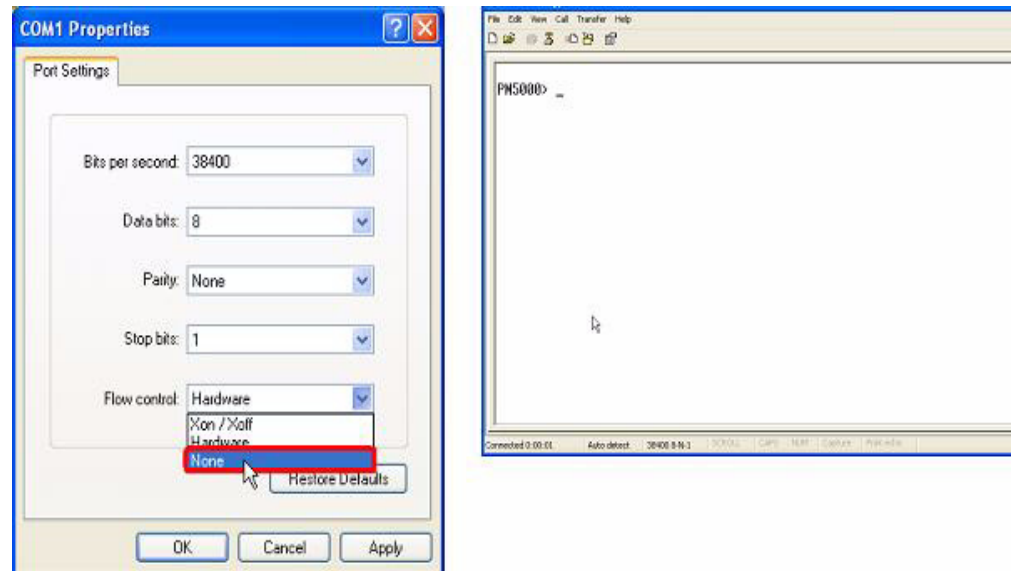

Figure 5-2 COM 1 settings
1. Set COM1 settings to 38,400 baud, no parity, 8 data bits, 1 stop bit. (Figure 5-2).
2. When the console appears, follow the steps below as seen in Figure 5-2: